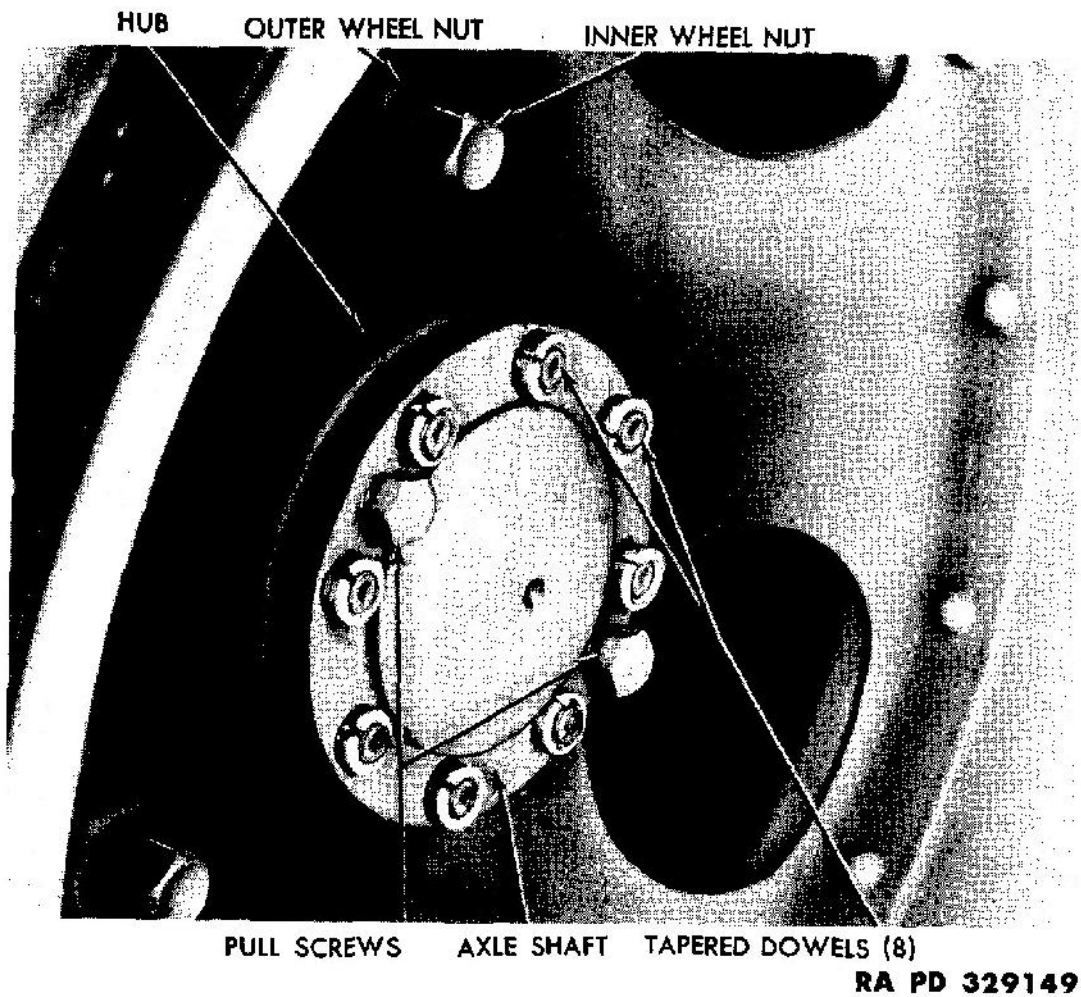

Figure 61 — Axle Shaft Installed
a. Remove the eight nuts and lock washers which hold the axle shaft flange to the hub. Screw in the two pull screws (fig. 61) to pull the axle shaft flange away from the hub. Strike the center of the axle shaft flange with a soft hammer to loosen the eight tapered dowels. Pull the axle shaft from the axle. To install the axle shaft, back off the pull screws and place a new gasket on the axle shaft flange. Insert the axle shaft into the axle and install the tapered dowels and lock washers on the studs on the hub. Install the axle shaft flange nuts, tightening each one a little at a time until all are tight. Tighten the pull screws just enough to prevent them from coming loose.